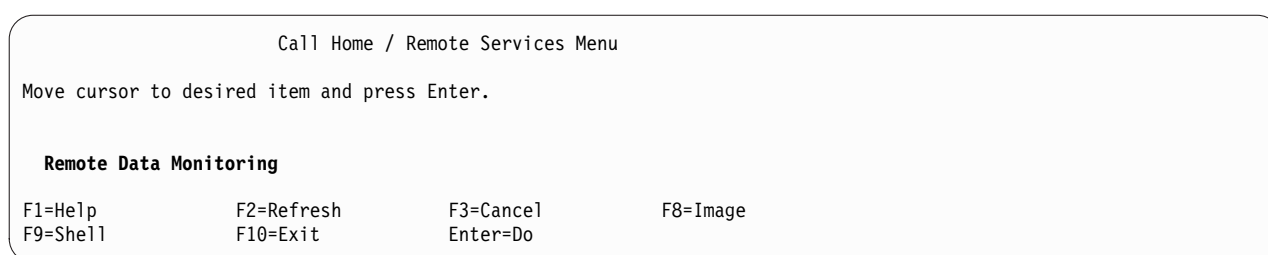
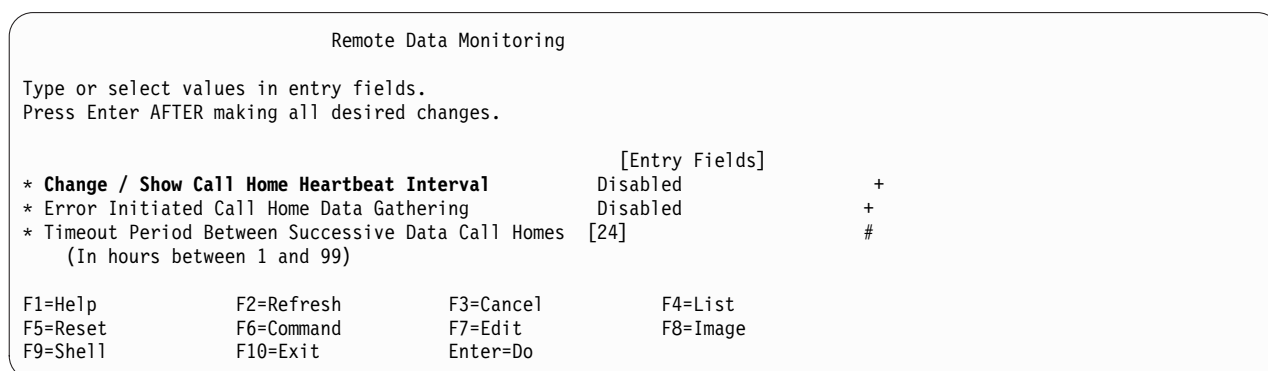

Figure 140. Call Home / Remote Services Menu – Remote Data Monitoring
Figure 141. Remote Data Monitoring Menu – Change / Show Call Home Heartbeat Interval
- At Figure 140 on page 117, select **Remote Data Monitoring**, and press **Enter**. Figure 141 on page 117 displays.
Attention: Select the illustrated line item only at **Figure 140 on page 117**. No other menu display items are applicable for this process.
4. At Figure 141, select **Change / Show Call Home Heartbeat Interval**, and press **Enter**.
Attention: Select the illustrated line item only at **Figure 141**. No other menu display items are applicable for this process.